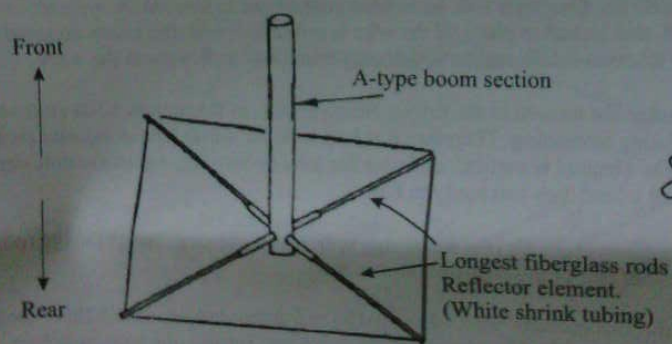

figure 5
- 6) There are 4 bundles of fiberglass rods. Select the 4 longest rods, and insert them in the 1/2" dia. rod support brackets in the A-type boom section from step 2. (The drilled end of the rods must be away from the boom). Carefully unroll the REFLECTOR element wire. This wire is identified by WHITE shrink tubing, marking the points of attachment to the fiberglass rods. Attach the wire to the rods using 4 wire claps and 4-40 hardware, including 4-40 x 3/4 bolts, nuts, & lockwashers. Refer to figures 5 & 6. (see note in page 2)